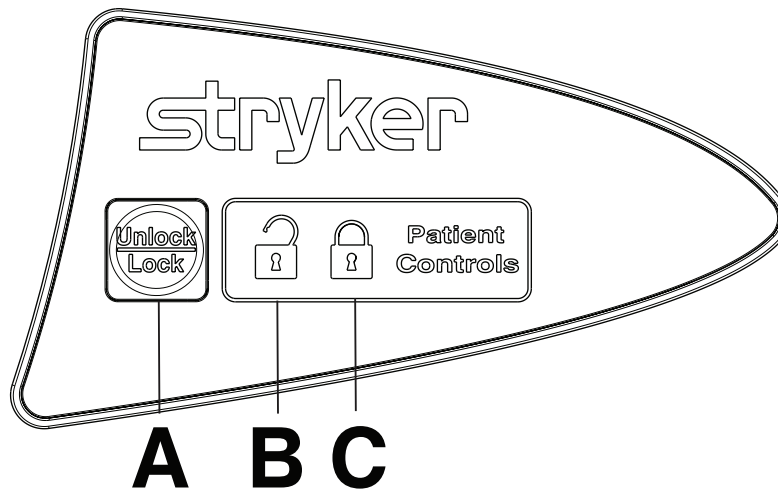

Figure 15 – Patient control panel lockout
To lock the siderail patient control panel, press **Unlock/Lock** (A) once (Figure 15).